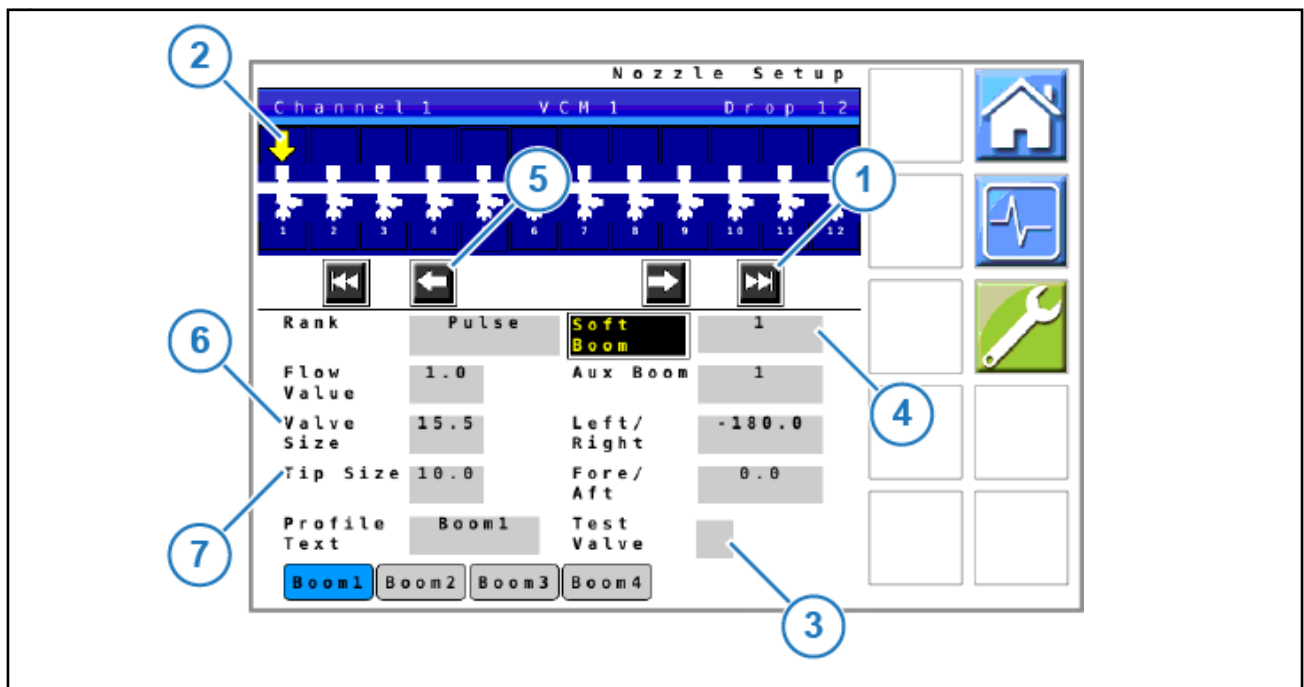

Figure 20: Nozzle Setup Screen
4. On the Nozzle Setup screen, select  (Figure 20, Item 1) to go to the next set of 12 nozzles in sequence.
5. Make sure that the yellow arrow (Figure 20, Item 2) is highlighting the correct nozzle.
6. To make sure that the correct valve is highlighted, select the box next to (Figure 20, Item 3) Test Valve. With an X in the box, the valve will pulse. Remove the X to stop the valve.
7. Select the box (Figure 20, Item 4) next to **Soft Boom** to change the boom layout as desired. Refer to your machine's Integration instructions for exact soft boom configurations.
9. If necessary, change the valve size (Figure 20, Item 6) or tip size (Figure 20, Item 7).